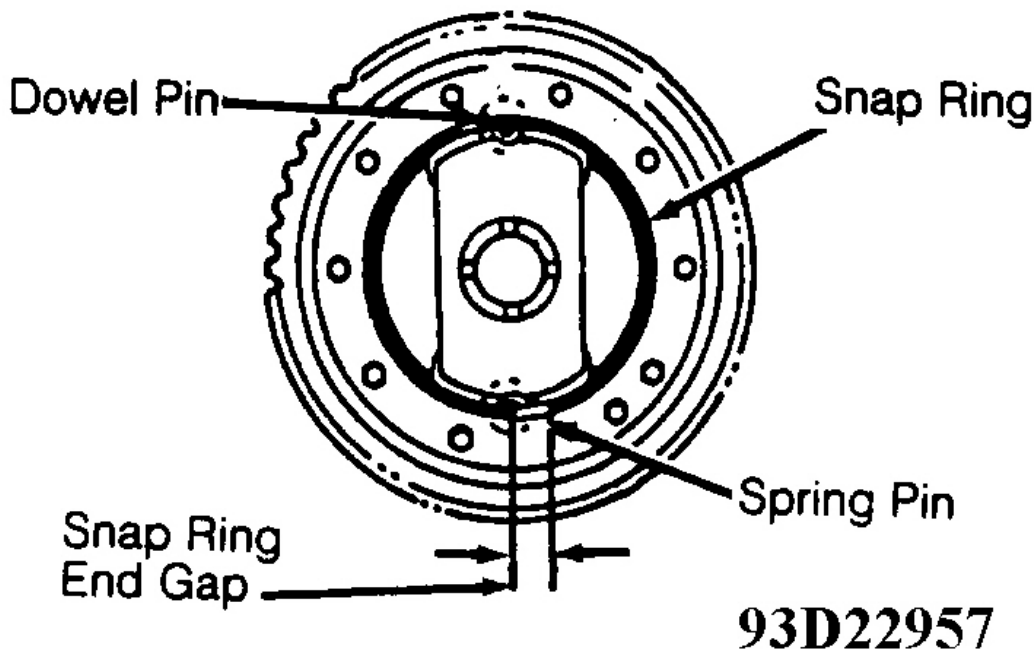

Fig. 33: Installing Speedometer Drive Gear Retaining Snap Ring
1. Install dowel pin for speedometer drive gear. Install speedometer drive gear with chamfered side on inside of gear toward differential carrier. Install snap ring so snap ring end gap is properly positioned in relation to differential carrier. See **Fig. 33**.